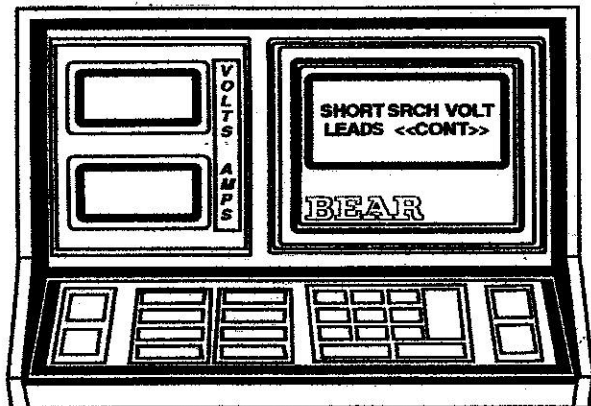

Figure 24
- B. Display reads "SHORT SRCH VOLT LEADS" (see Figure 24). To "short" the search volts leads, clip them together so that the metal clips are in complete contact with each other. Then press [CONTINUE].